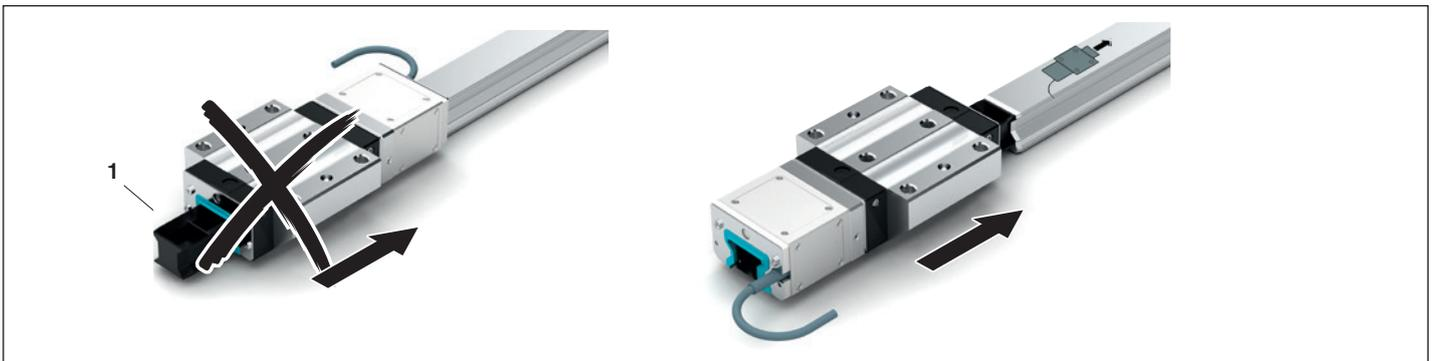

Fig. 8: Pushing the Runner Block onto the rail
- ▶ Position the Runner Block with transport lock (1) on the Guide Rail.
- ▶ Push the Runner Block onto the rail → Fig. 8
- ▶ Keep the transport lock (1) for later disassembly.